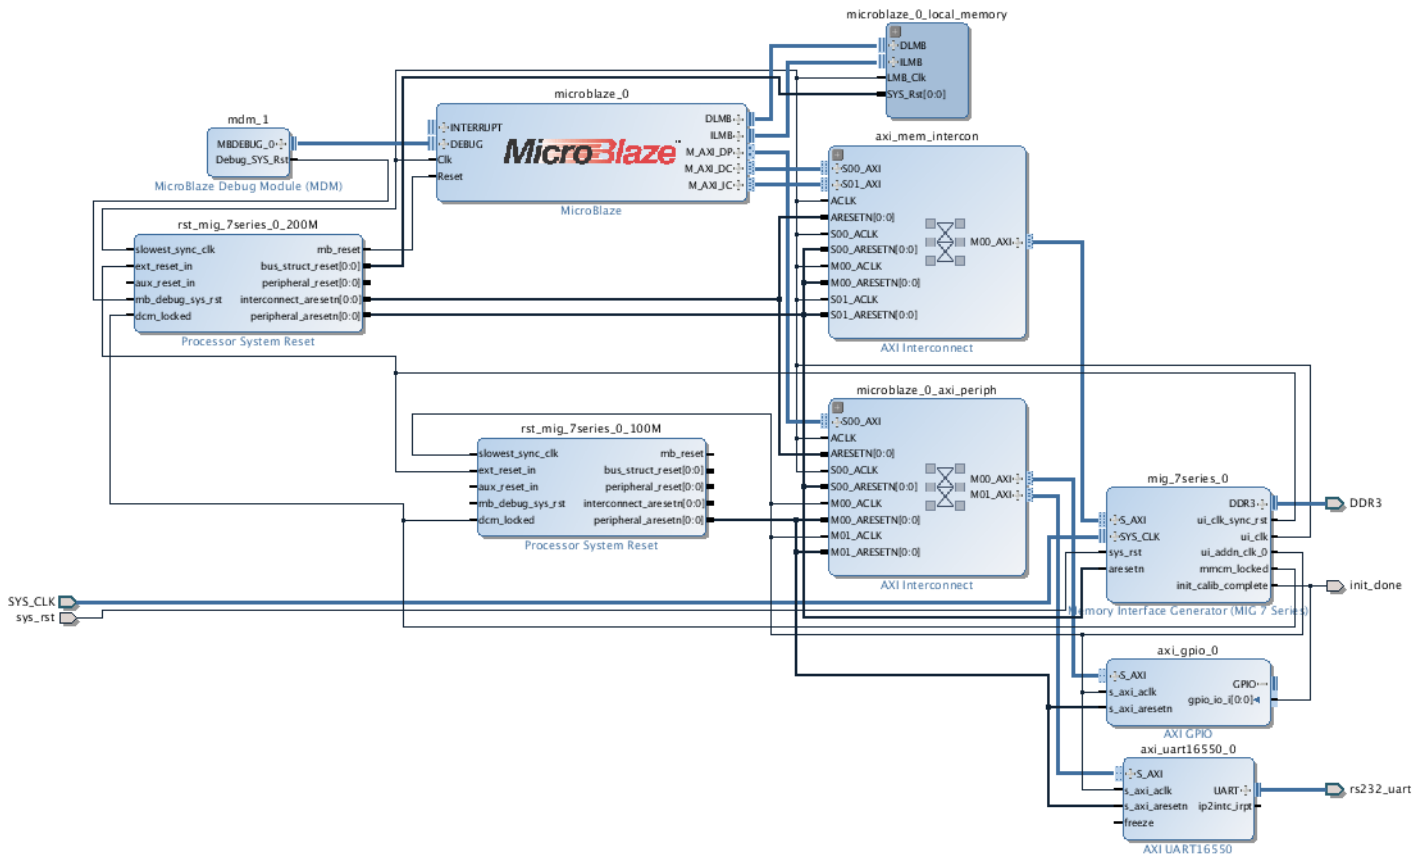

Figure 2: IP Integrator Block Diagram
3. Select `design_1.bd`, if necessary. The block diagram is shown in Figure 2.